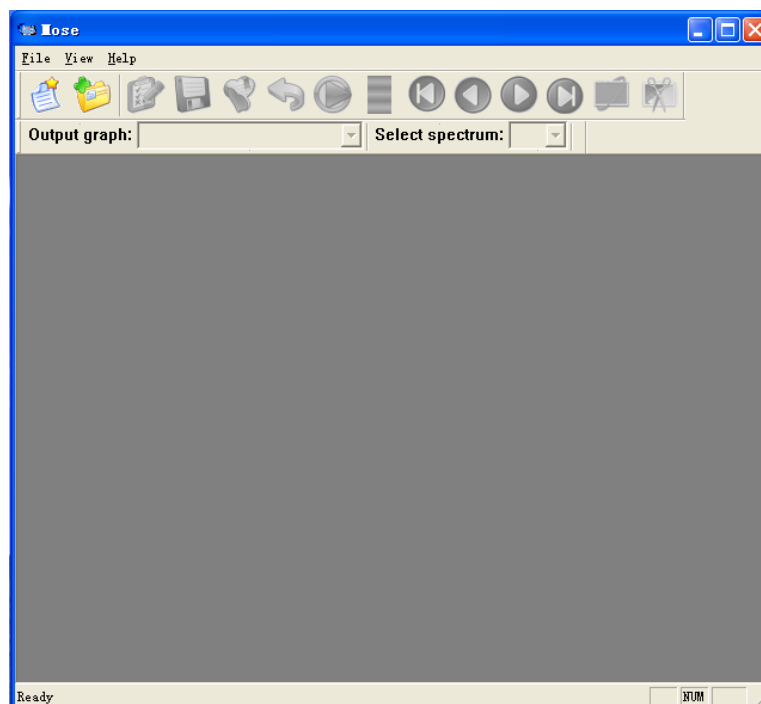

Figure 1. Main Window of MOSE
1. Double click the **MOSE.exe** file, and Monte Carlo simulation application software will start immediately (Figure 1).